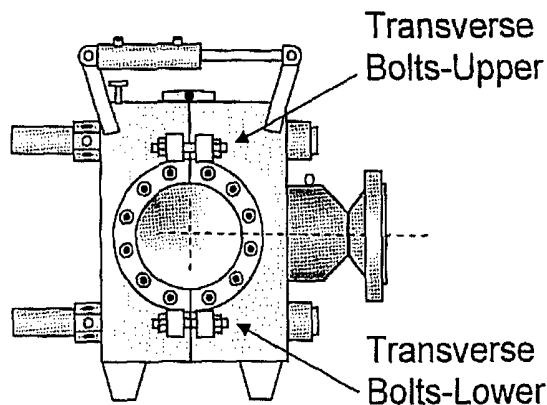

Figure 7 Transverse Bolts
- 6.12 The Diver will install the four (4) Packing Flange tangential studs (2 per Packing Flange) and eight (8) nuts and securely tighten the nuts with a pair of adjustable wrenches. See Figure 7.
- 8.2 The Diver must verify that the faces of the Packing Flanges halves are flush with one another and torque the two (2) Packing Flange transverse 7/8"-9UNC studs and nuts to 100 ft-lb with a mechanical torque wrench. Wrench size is 1-7/16. (See Figure 7).